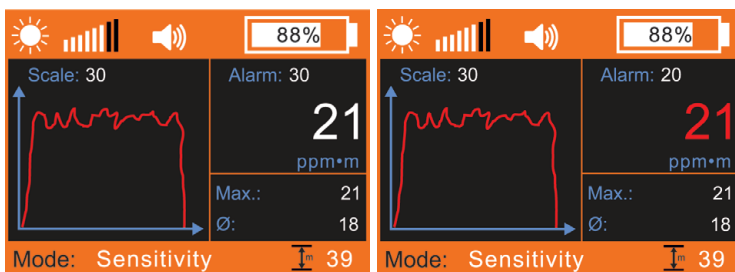

Fig. 8: Measuring mode – depiction of the current measurement value
- The current measurement value is in red (fig. 8, right image).